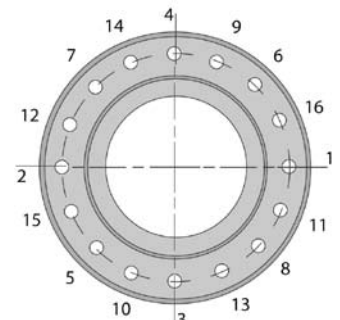

Figure 4: Tightening Sequence
2. As the first torquing step, tighten the bolts in a crisscross sequence as shown in Fig. 4. Using a torque wrench with 20% of the final torque listed in the table on the other side of this sheet, taking care that points (I) and (II) are satisfied at all times.